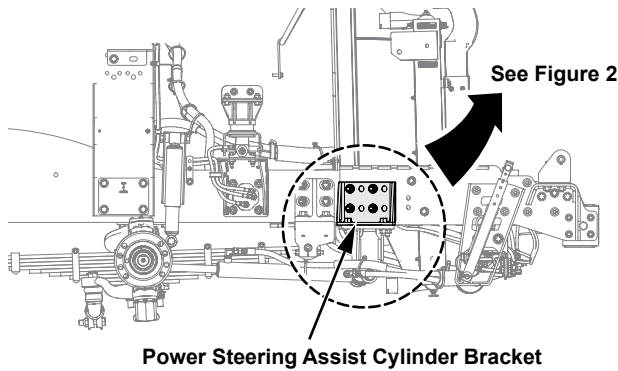

Figure 1, Cylinder Bracket Location
2. Locate the power steering assist cylinder bracket located at the front of the left or right frame rail opposite the steering gear (see Figure 1).